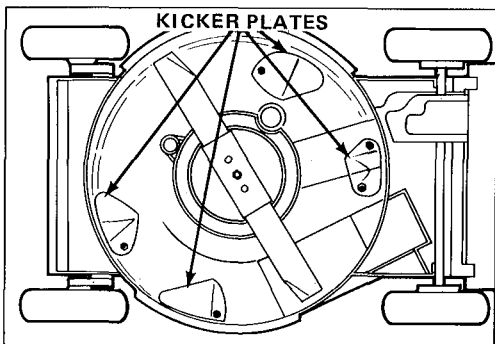

Figure 7
- B. Four special "kicker plates" positioned on the underside of the mower deck in strategic positions (Fig. 7)